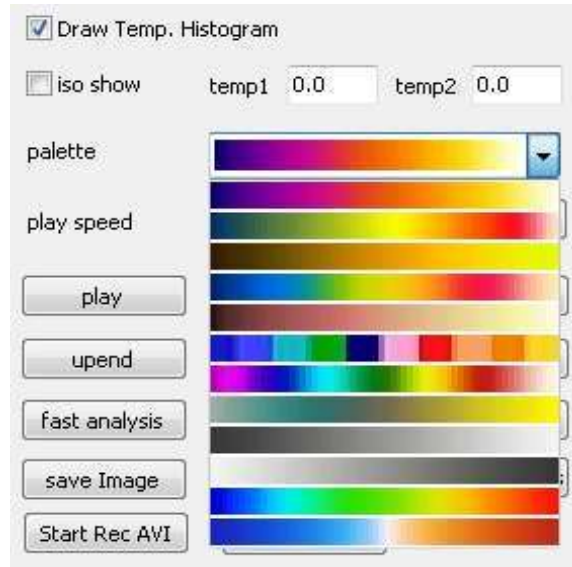

Figure 5-26
- 2) **Palette:** There are 12 kinds of palettes are available. As shown in the figure 5-26.